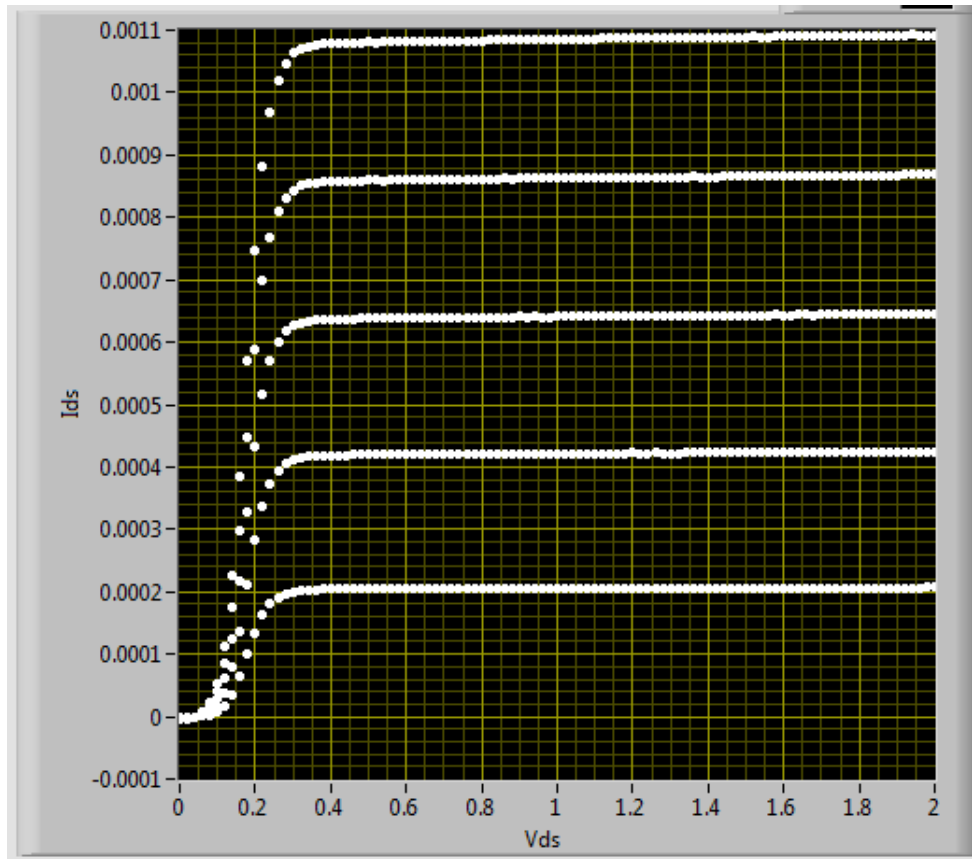

Figure 4: I_c - V_{ce} of BJT
4. Check the result of your measurement on the right (An example of the typical I_c - V_{ce} of BJT is shown in Figure 4). You could go to the folder where you store the data for further processing and analysis.